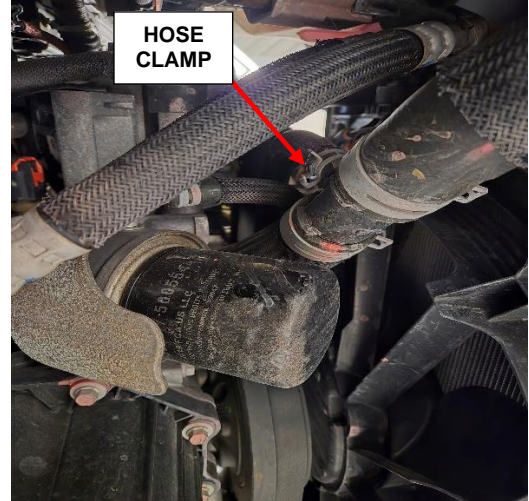

Figure 8 - Hose
9. Remove the hose clamp from the hose (Figure 8).